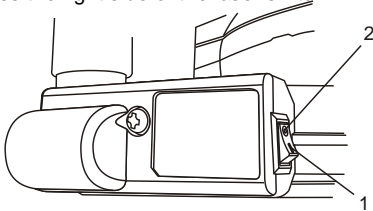

Fig. 8
To turn the laser ON, press the left side of the laser switch (1) (Fig. 8). To turn the laser OFF, press the right side of the laser switch.